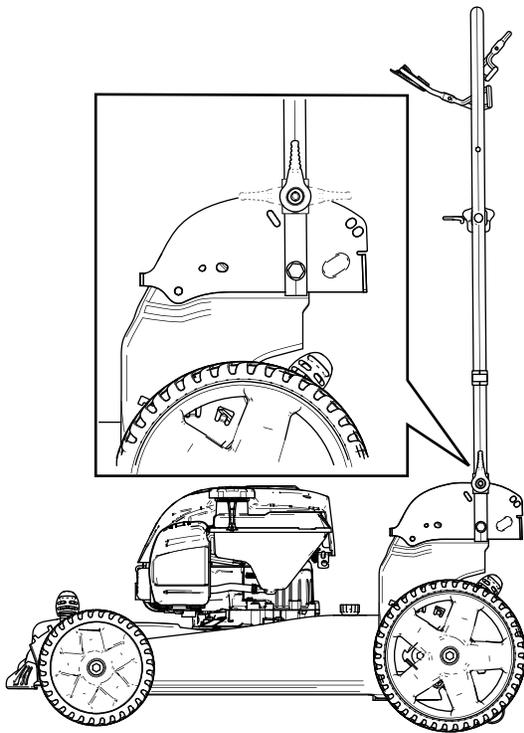

Figure 17
3. Fold the handle forward either to the vertical position or the fully forward position as shown in Figure 17.